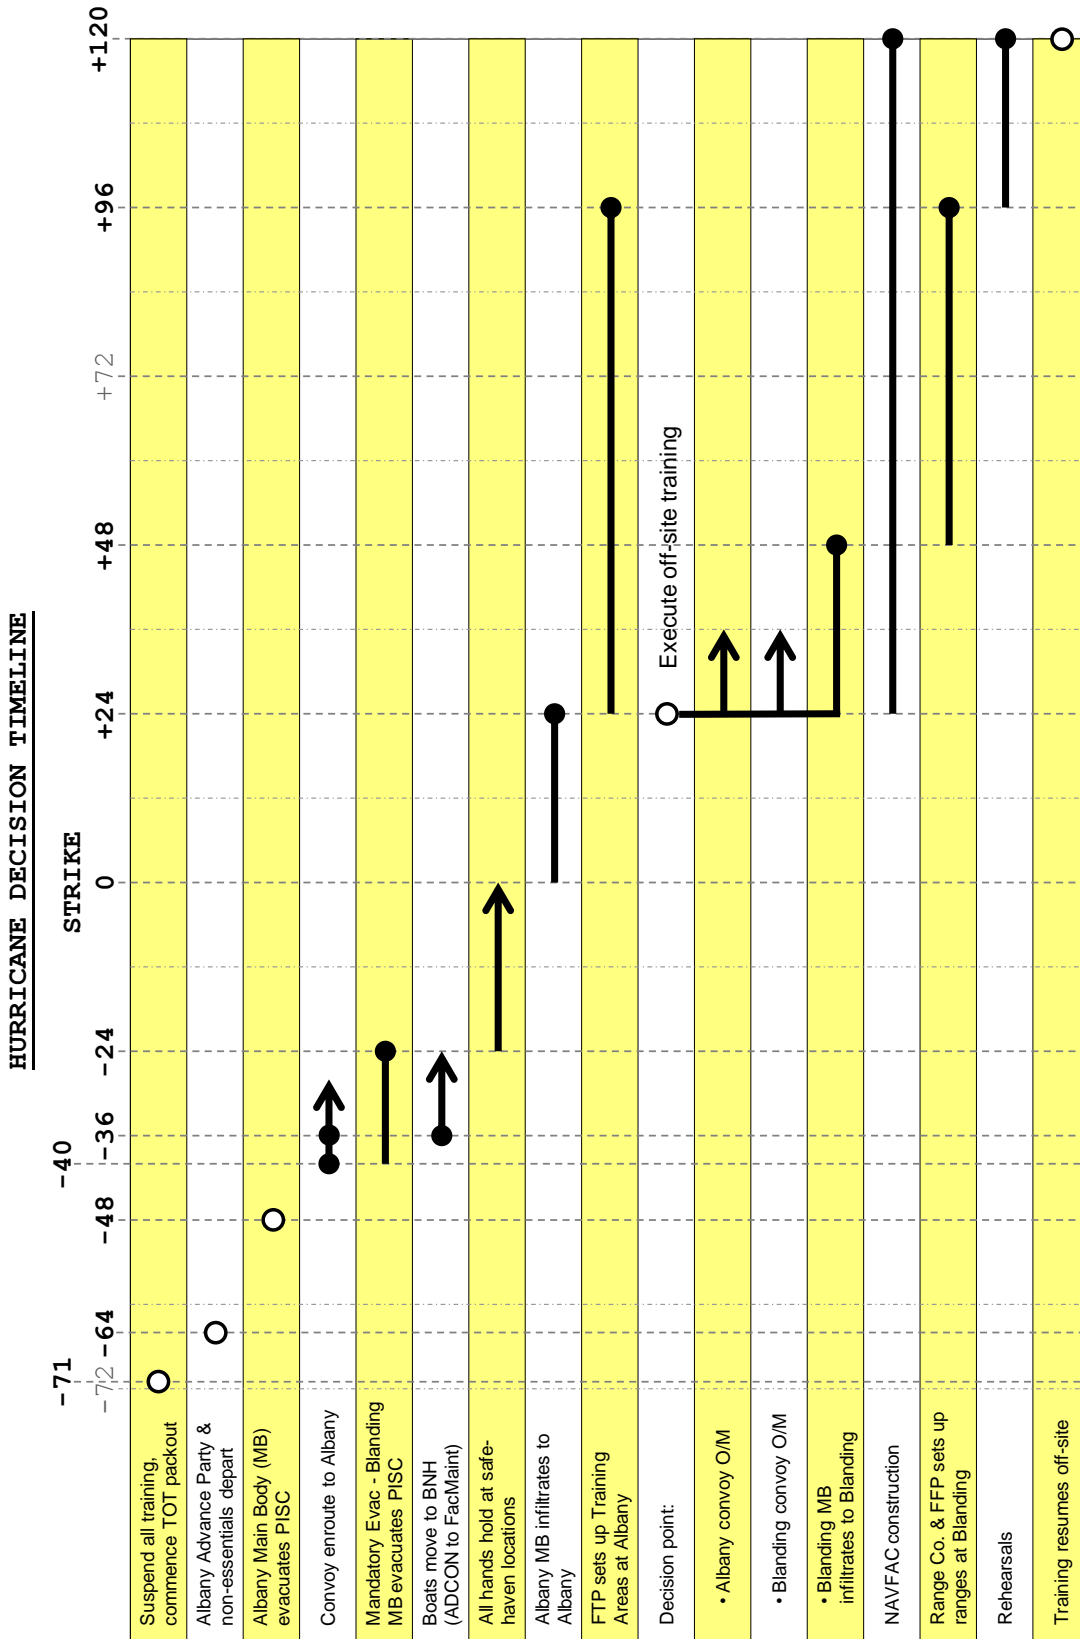

Figure 1-1
(1) Prepare Depot for Destructive Weather.
(2) A decision must be made as to whether the hurricane will require an evacuation of the Depot.
(3) Recruit training will cease and the AC/S, Recruiting will cease shipping poolies to recruit training at MCRD, Parris Island.
(4) Family members will evacuate.
(5) Recruits will be evacuated to Marine Corps Logistics Base, Albany, GA.
(6) Certain emergency personnel will remain behind aboard the Depot, or evacuate to Beaufort Naval Hospital.
(7) After the hurricane passes, damage assessment and recovery operations begin.
c. Figure 1-1 provides a graphical representation of the decisions/actions required during the approach of destructive weather.
(1) Emergency personnel will not be released during destructive weather and must make advance preparations for family members to evacuate without them. Emergency personnel are those who are assigned to the following elements: Remain Behind Element (RBE), Convoy, and Advance Party.
(2) Non-emergency personnel will be released prior to arrival of destructive weather; however, non-emergency personnel may be required to participate in destructive weather preparations, and they may also deploy to one of the off-site training facilities in order to support the training or sustainment of recruits.
(3) Non-essential personnel are are not required to participate in destructive weather preparations. Non-essential personnel will be released early (see figure 1-1); however, non-essential personnel may be required to deploy to one of the off-site training facilities in order to support the training or sustainment of recruits.
2. Concept. WFTBn conducts operations in preparation for and during Hurricane Season, 1 June to 30 November. Preparation for Hurricane Season commences prior to 1 June and is continuous until an evacuation is ordered by the Commanding General due to an impending storm or until the end of the Hurricane Season. If an evacuation is ordered, the Bn's focus is to ensure the safety and the lives of all personnel assigned. If damage from the storm does not permit the return of the recruits to MCRD PI for an extended period, a Continuing Operations Plan (COOP) will be put into effect at MCLB Albany and Camp Blanding, Florida, and will remain in effect until operations can be resumed at MCRD PI. The tasks outlined below are affiliated with Hurricane Conditions and the potential Strike of the Hurricane timeline. The generic hurricane timeline is at figure 1-1. The tasks cover the preparation, evacuation and the return/recovery of MCRD PI.